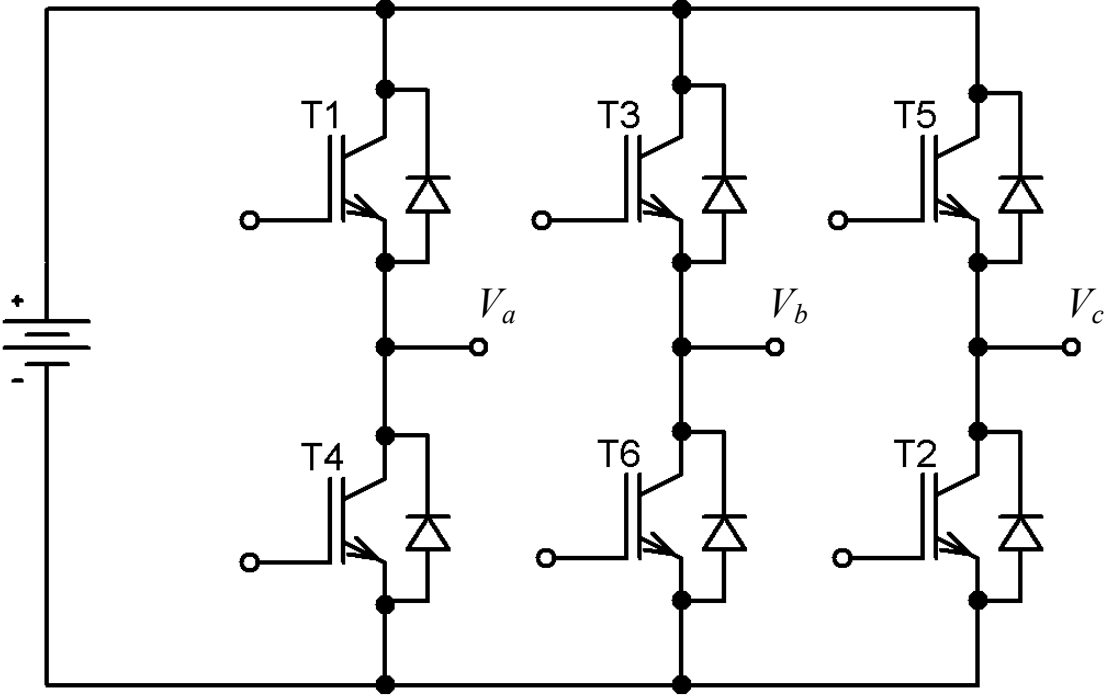

Fig. 5
- 4 (a) The voltage outputs from a PWM inverter illustrated in Fig. 5, are sometimes described as *two level*. Making reference to the duty ratio D , explain why this is a clear description when the inverter leg is converting the dc supply voltage to an ac voltage. Describe carefully one method by which the switching signals for T1 and T4 may be obtained. [20%]
- (c) Space Vector Modulation is a method of producing the modulation signals for the whole inverter of Fig. 5 based on the position of a single *voltage vector*.